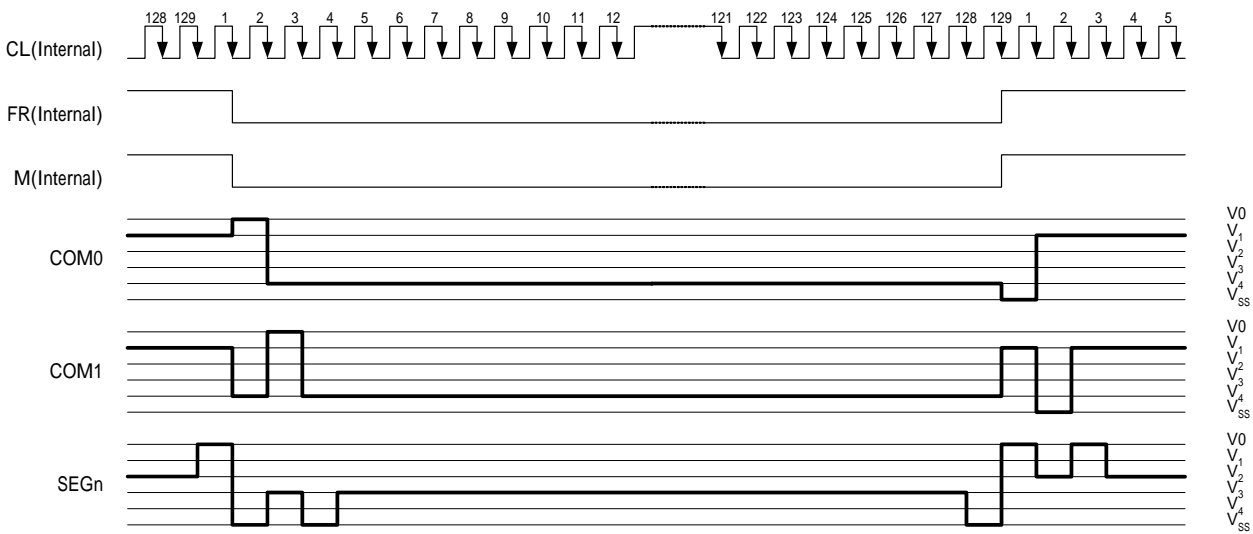

Figure 12 2-frame AC Driving Waveform (Duty Ratio: 1/129)
This circuit generates some signals to be used for displaying LCD. The display clock, CL (internal), generated by oscillation clock, generates the clock for the line counter and the signal for the display data latch. The line address of on-chip RAM is generated in synchronization with the display clock and the display data latch circuit latches the 128-bit display data in synchronization with the display clock. The display data, which is read to the LCD driver, is completely independent of the access to the display data RAM from the microprocessor. The display clock generates an LCD AC signal (M) which enables the LCD driver to make an AC drive waveform, and also generates an internal common timing signal and start signal to the common driver. The frame signal or the line signal changes the M by setting internal instruction. Driving waveform and internal timing signal are shown in Figure 12.